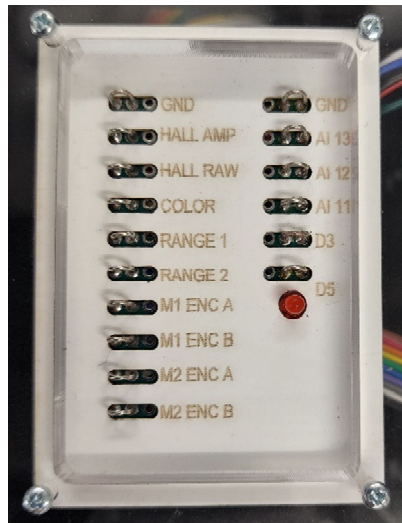

Figure 3. Lab Robot Breakouts
- Now create a second plot with **ln(Voltage) on the Y-axis** and **ln(distance) on the X-axis** as shown in Figure 3 (Section 2.2). Only include data from 4-30 cm. In the menu of your MATLAB Figure, select Tools→Basic Fitting, then select a linear fit and display the equation on your plot. Following the example in Figure 3 (Section 2.2), use the values for the slope and intercept to write an equation for Distance as a function of Voltage.